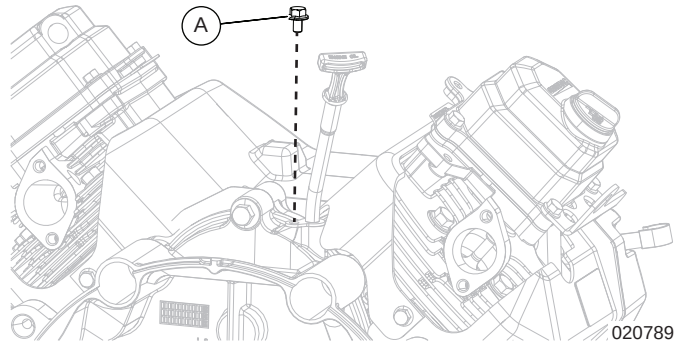

Figure 6-24. Remove Dipstick Retaining Bolt
1. See Figure 6-24. Remove bolt (A) retaining oil dipstick tube.